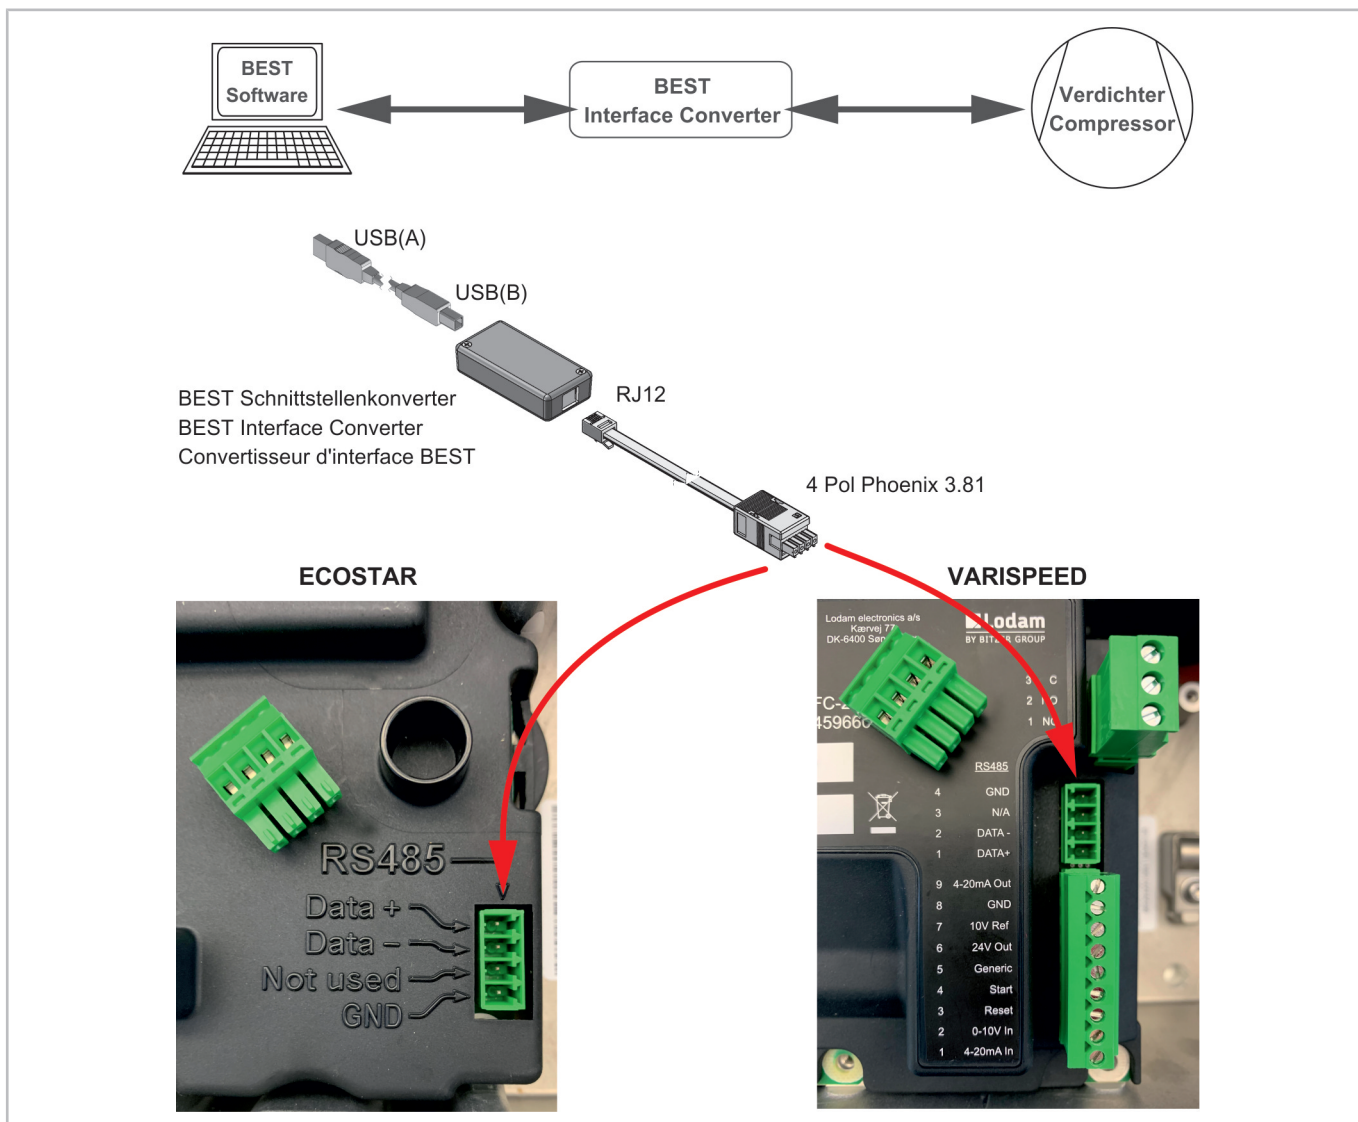

Fig. 10: Connecting VARISPEED .F1 using the BEST interface converter.
- ▶ Connect the BEST interface converter to the terminal strip X100 and the mobile device (see figure 10, page 31).
- ▶ Click the **NEW** button (2).
- ▶ Select VARISPEED (3).
- ▶ Click the **CONNECT** button (4).